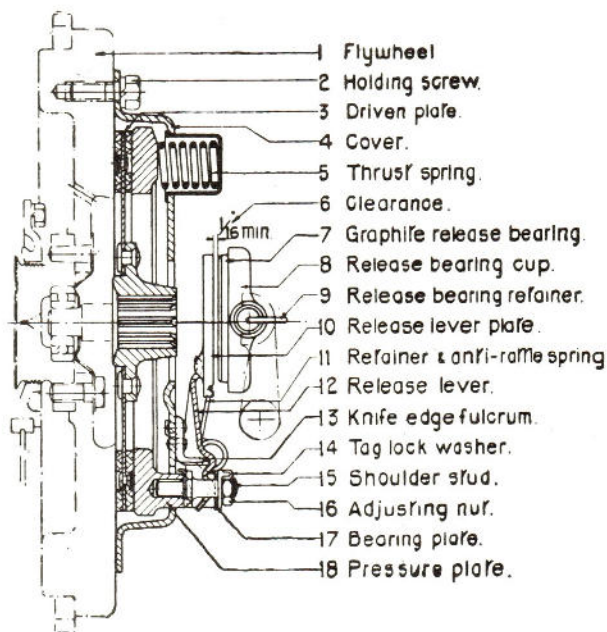

Fig. 33.
See Fig. 33
The Cover Assembly. This comprises, as with the other models, a pressed steel cover (4), a cast iron pressure plate but the six thrust springs are enclosed in pressed steel cups which protrude from the cover plate face. The pressed steel release levers rest on knife edge fulcrums and are held in position by bridge pieces located on stud extensions screwed into the pressure plate lugs (see Fig. 33). A release lever plate is attached to the ends of the levers by retainer springs as with the larger models.
See Figs. 33, 36 and 37